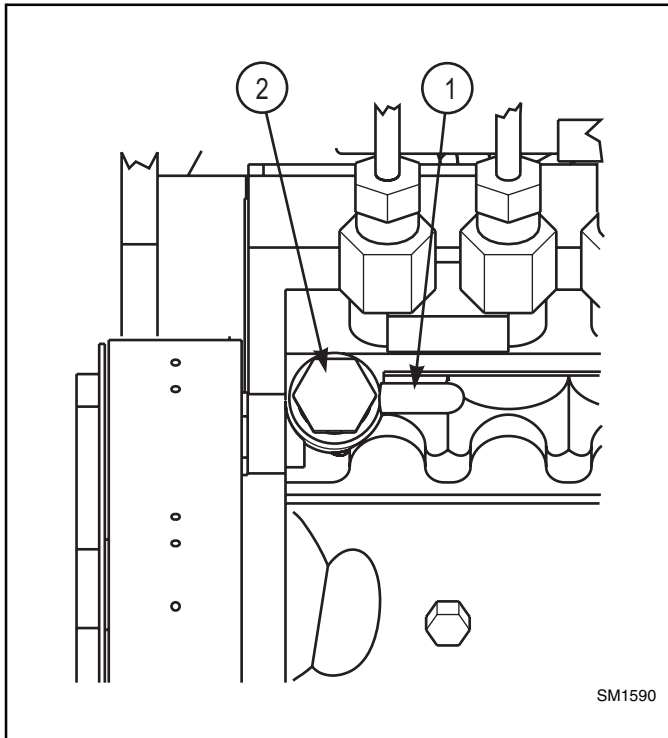
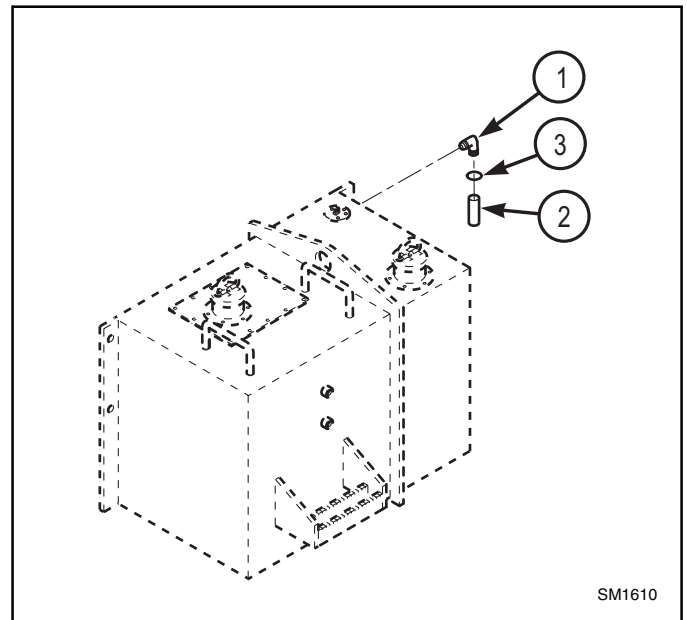

Figure 8
Figure 10
- Remove plastic cap (1) from banjo fitting (2) on new engine block. Discard plastic cap. (Figure 8).
- Loosen banjo fitting (2) and position it at 45 degree angle. Tighten fitting. (Figure 8).
#### INSTALLATION (Figure 10)
- Apply sealing compound on threads of elbow # 8430039 (1) (From the kit) and install on vehicle fuel tank. (Figure 10).
- (From the kit) position fuel drain line # 6620181(2) on vehicle. (Figure 10).
- Install fuel drain line (2) (Figure 10) on banjo fitting (2) see removal (Figure 8) and elbow (1) with 2 clamp # 8405009 (3) (From the kit). (Figure 10).